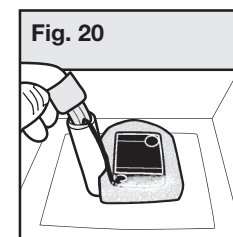

Fig. 20
- Remove the extra slack from the electrical power cord and insert the rubber cap into the raised post. Make sure the cord channel on the rubber cap is aligned with the electrical power cord, then insert your finger into the rubber cap and push all the way down (Fig. 20).